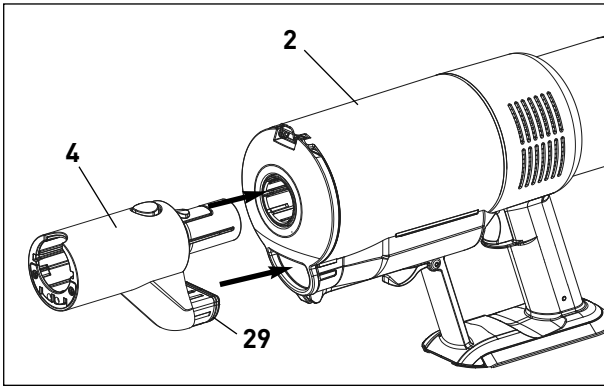

Figure 1
Step 1 - Attach the Adapter - Figure 1 - Fit the adapter (4) into the center of the dust container (2), with the air channel (29) lined up with the duct under the dust container. Slide the adapter in until it clicks into place.